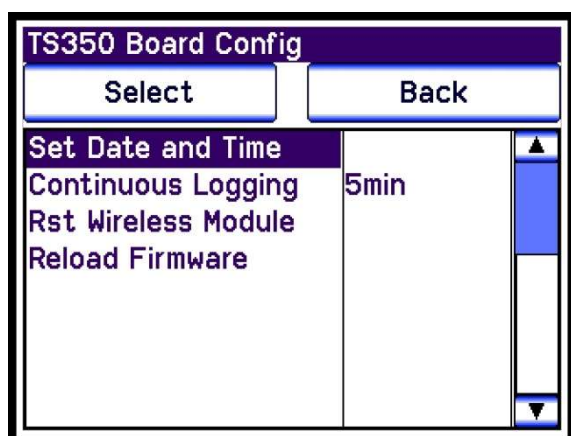

Figure 20
- Highlight **Rst Wireless Module** or **Reload Firmware** (Figure 20)